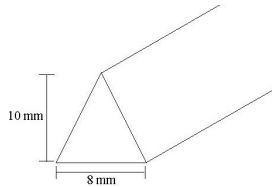

Figure 2
- * Gun apply triangular beads of **SikaBond T2** adhesive at approximately 250 mm centres. The minimum profile of the extruded **SikaBond T2** should be as Figure 2.